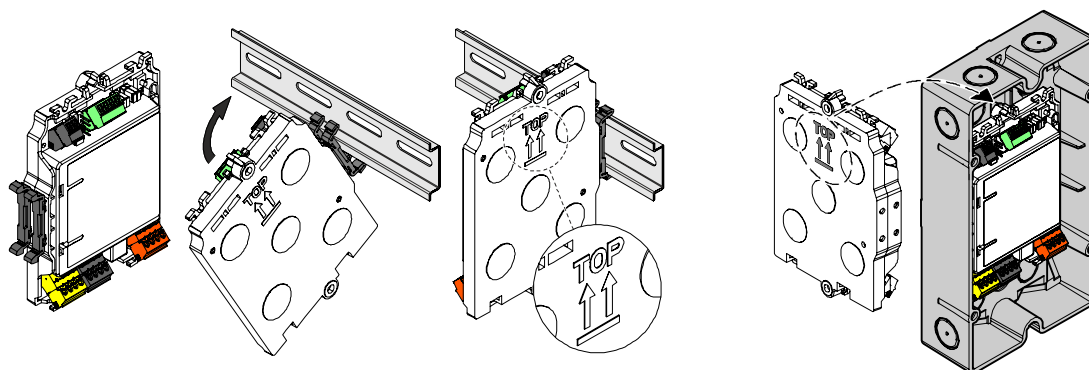

Fig. 1
- In a fire control panel using the mounting feet supplied on a U-rail TS35 (Fig. 1)